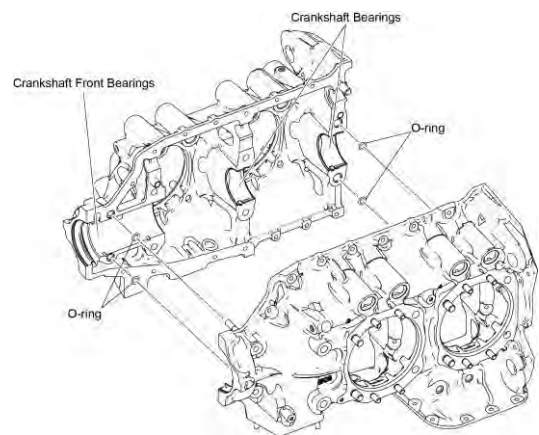

Figure 63
C. Install the new O-rings in the crankcase (Figure 63).